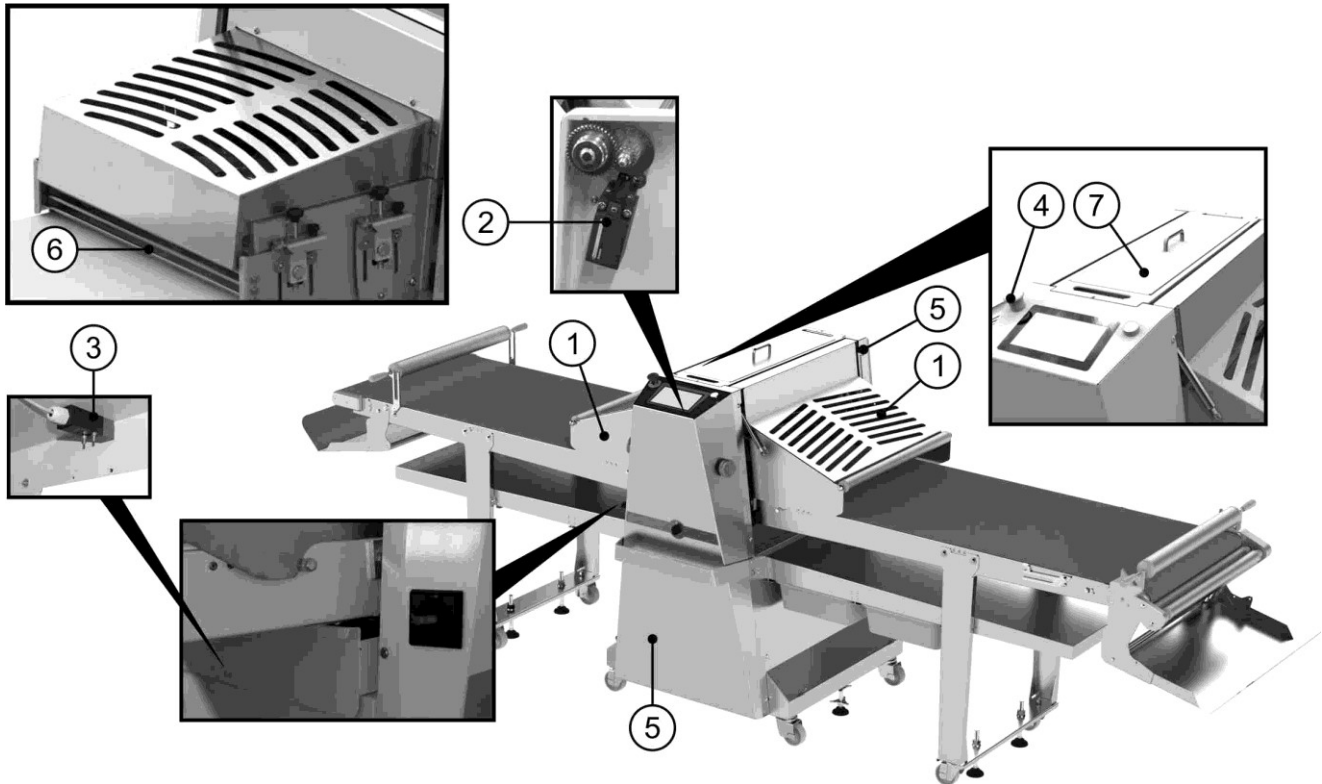

Figure 23
With reference to Figure 23 we hereby indicate the safety devices present on the machine:
Fixed guards. They are all the protections that are fastened to the machine and that require the use of at least one tool to remove them. With reference to Figure 23 we are mainly referring to the following items already described in this manual:
3. the interlocking devices of the mobile guards Ref. 1 Fig. 23 as provided for by the standard UNI EN 1674:2015, paragraph 5.2.1.1. Use a 105 mm high gauge block and slide it between the belt and the cylinder-shaped guard: the microswitch must trigger when the guard is lifted. Make sure that the alarm message is correctly displayed when the safety microswitch is triggered (see the paragraph "ALARMS" in the programming manual).
4. Open the flour collection drawer Ref. 3 Fig.23 and make sure that the message appears that the safety microswitch has been triggered (see the paragraph "ALARMS" in the programming manual).